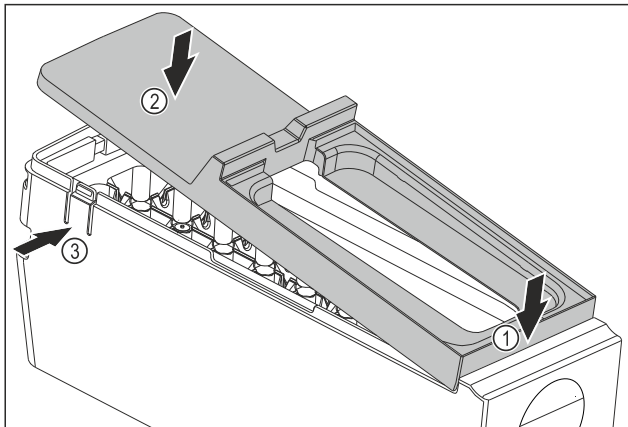

Fig. 94
- ▶ Installing the cover of the EasyTwist-Ice body: Fit the cover at the front. Fig. 94 (1)
- ▶ Lower the cover at the rear. Fig. 94 (2)
- ▷ The cover snaps audibly into place in both tabs Fig. 94 (3).